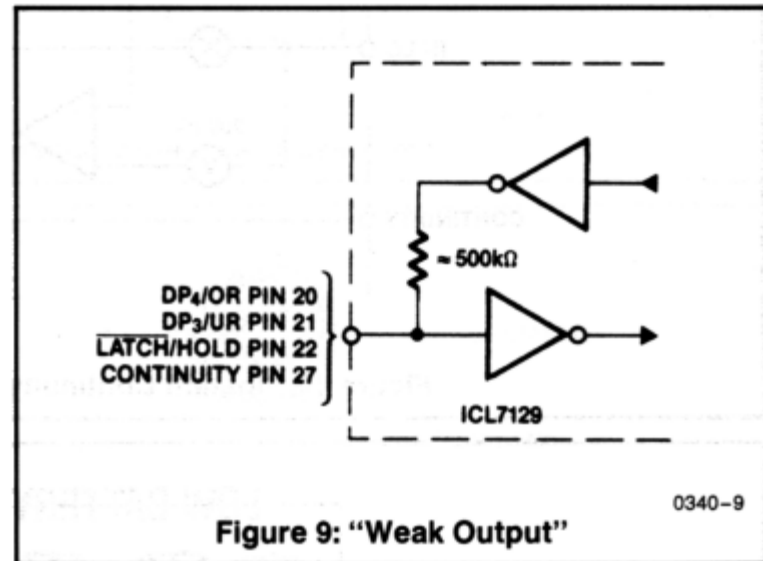

Figure 9: "Weak Output"
Four pins of the ICL7129 can be used as either inputs or outputs. The specific pin numbers and functions are described in the Pin Description table (Table 1). If the output function of the pin is not desired in an application it can easily be overridden by connecting the pin to  $V^+$  (HI) or DGND (LO). This connection will not damage the device because the output impedance of these pins is quite high. A simplified schematic of these input/output pins is shown in Figure 9. Since there is approximately 500k $\Omega$  in series with the output driver, the pin (when used as an output) can only drive very light loads such as 4000 series, 74CXX type CMOS logic, or other high input impedance devices. The output drive capability of these four pins is limited to 3 $\mu$ A, nominally, and the input switching threshold is typically  $DGND + 2V$ .